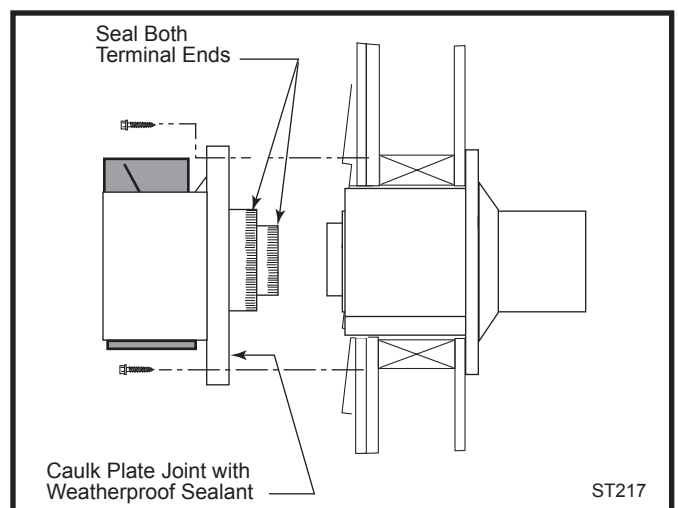

Fig. 27 Install the vent terminal.
10. For both MHSC and DuraVent Systems: Install the vent terminal. (Fig. 27) Apply high temperature sealant one inch from the ends of the inner and outer collars. Guide the inner and outer vent termination collars into the adjacent pipes. Double check that the vent pipes overlap the collars by 2". Fasten the termination to the wall with the screws provided, and caulk the joint with weatherproof sealant.